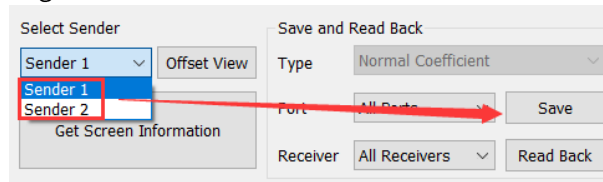

Fig 8.4.5.2 Save calibration coefficients for different senders
Step 6: Switch between different senders and save its calibration coefficients to the corresponding receiver card. Then, check the display effect on the corresponding LED screen, as shown in Figure 8.4.5.2.